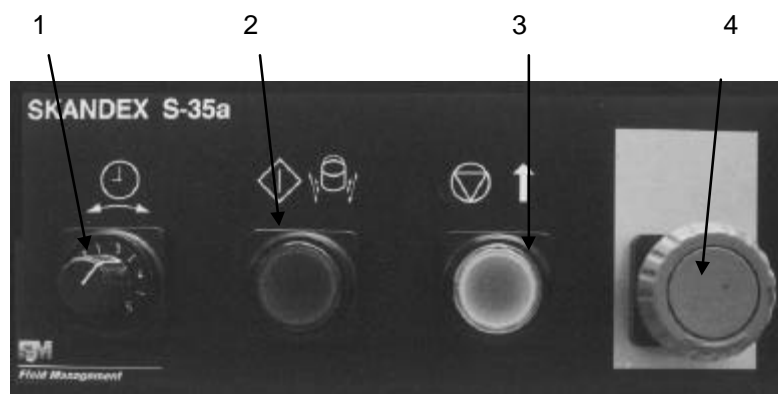
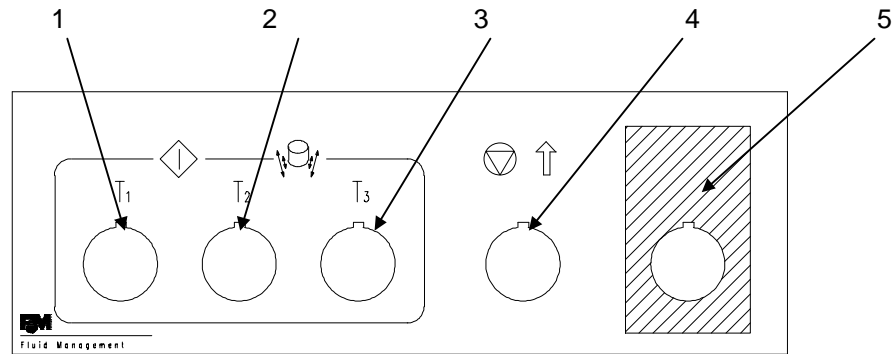

figure 9
figure 10
- SO-40a : The emergency stop is pushed in (see figure 9), and the ON/OFF-switch at the back of the machine is at <O>.
5.4.3 Type: SO-40a (Figure 9)
3. Release the emergency stop (figure 9, number 4).
7. Set the timer (figure 9, number 1) or one of the start buttons (figure 10, numbers 1, 2, 3) to the desired shaking time.
8. Press the START button (figure 9, number 2); the clamping plate will automatically move down and the shaking cycle will start. At the end of the shaking cycle the clamping plate will automatically move back up again. In case the machine has been fitted with timer buttons, these are also the start buttons (see figure 10, numbers 1, 2 and 3).
9. After the shaking cycle has finished, open the door, and remove the container. If there is another container, place it on the platform, close the door and proceed again from point (7).
10. Should a container not fit between the platform and the clamping plate, the latter can be moved upwards using the UP-button (figure 9, number 3).
The shaking cycle can be interrupted while it is in progress by pressing the UP button (figure 9, number 3). The clamping plate will then automatically move upwards.
In an emergency, the shaking cycle can also be interrupted by pressing the emergency stop (figure 9, number 4). In this case it is necessary to wait 15 seconds before releasing the emergency stop. The emergency stop can be released by turning it a quarter turn to the left.
In the course of 1997 the SO-40a machine will be fitted with a new control panel (see figure 10). The machine will then have three start buttons (figure 10, numbers 1, 2 en 3): to shake automatically for 30, 60 of 180 seconds. When simultaneously pressed, the shaking times will automatically add up. (Button 1 and 2 pushed will give a shaking time of 90 seconds.)